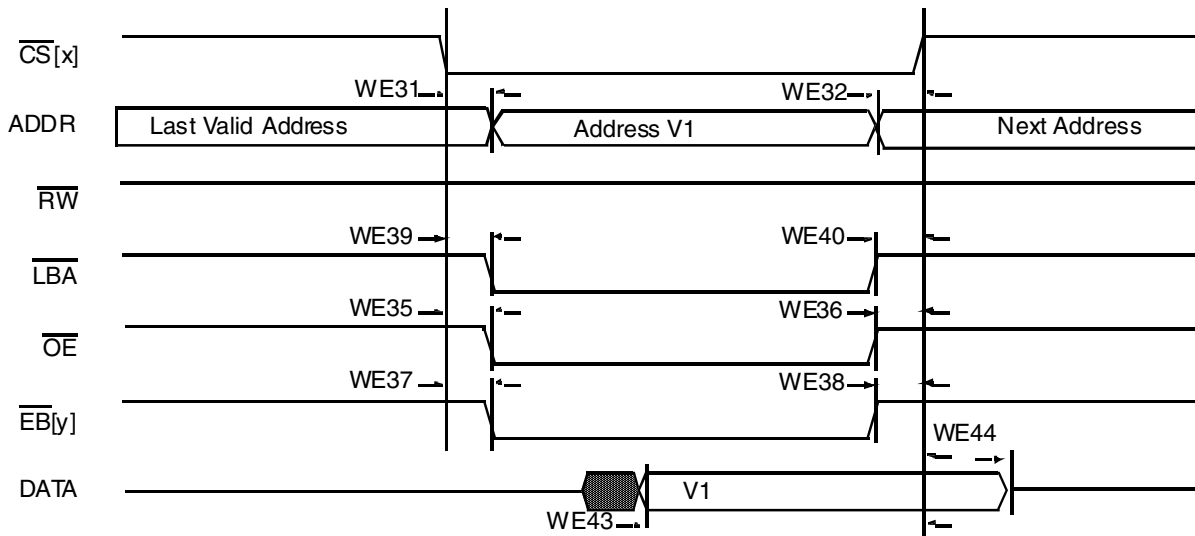
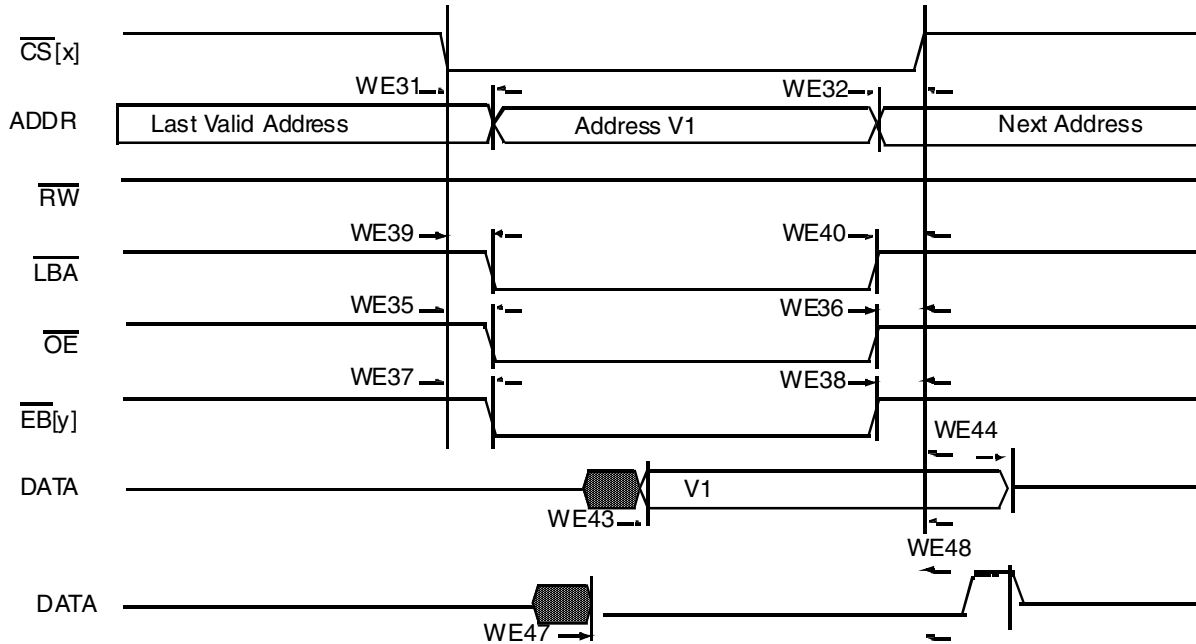

Figure 22. Asynchronous Memory Read Access
Figure 26. DTACK Read Access
Figure 22 through Figure 26, and Table 31 help to determine timing parameters relative chip select (CS) state for asynchronous and DTACK WEIM accesses with corresponding WEIM bit fields and the timing parameters mentioned above.